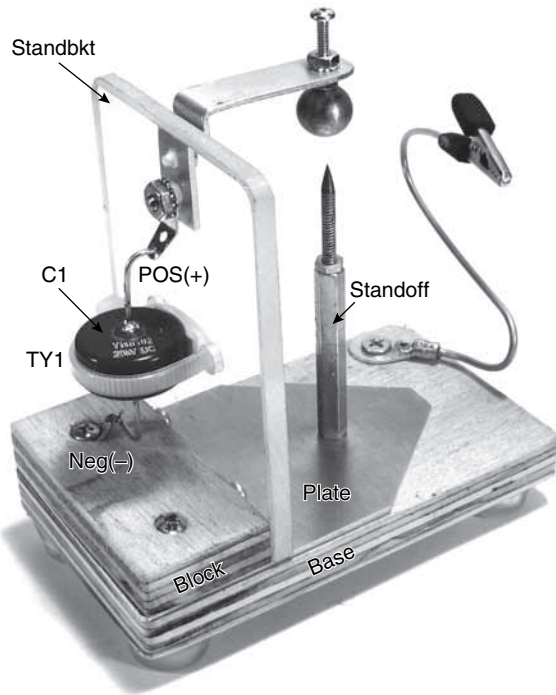

Figure 3-1 Assembled plasma driller.
Figure 3-1 shows the device without protective shielding of high-voltage parts, but a simply made cover can be added if desired. Improper contact can produce a very painful shock but will not burn or cause injury. Plasma energy is 20 kV at 1/5 J.
2. Position the PLATE onto the BASE. Next, position the BLOCK on top of the BASE, as shown in Fig. 3-1, and using two No. 6 \times $\frac{3}{4}$ -inch wood screws, assemble the pieces together. Note that the screw with the ground lug LUG6 for lead from C1 must make a good electrical contact with the PLATE when going into hole H—this is best accomplished by drilling the hole H in the aluminum PLATE at $\frac{3}{32}$ -inch diameter, which is smaller than the No. 6 screw going into it such that there will be a snug connection between the sheet-metal screw and the PLATE.
8. Sharpen the end of a 6-32 \times $\frac{1}{2}$ -inch screw to a symmetrical conical point. Remove the head and reshape the threads to screw into the STANDOFF as shown in Fig. 3-1. Note the jam nut securing the position. Adjust the spacing between BALL.5 and the reworked screw to $\frac{1}{4}$ inch. This is the firing gap and may be readjusted when you become more familiar with operation.